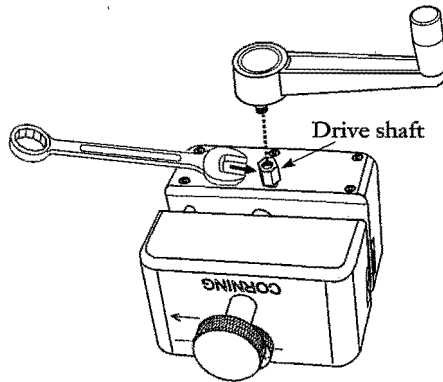

Figure 6
5.2 To attach the tool's handle, hold the drive shaft with the 3/8-inch provided and thread the handle onto the shaft (Figure 6).